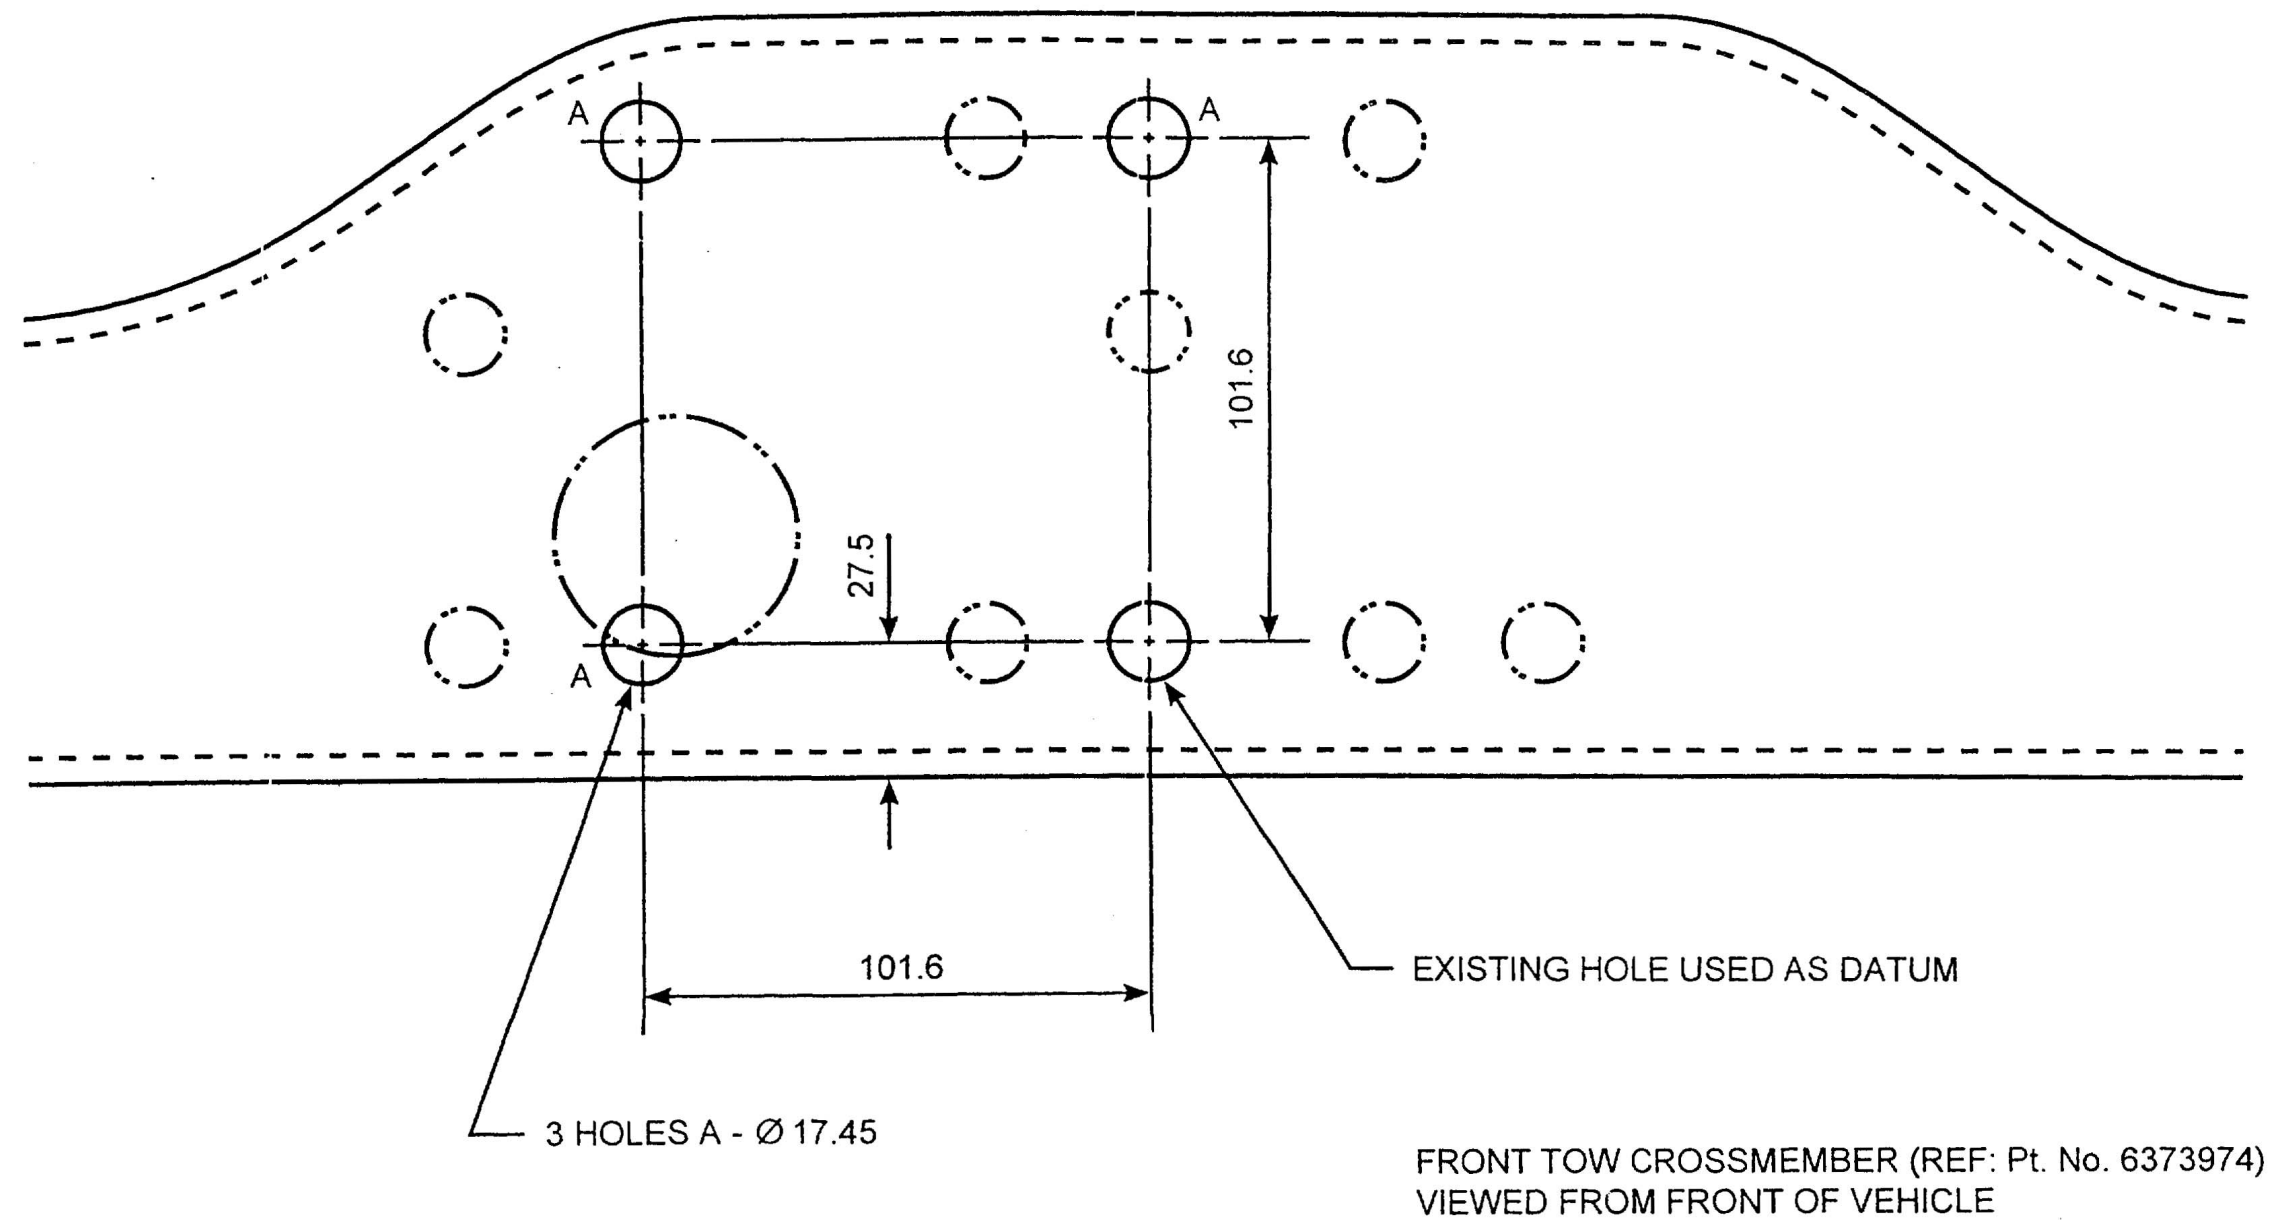

Fig 1 Tow hook mounting holes
9.6.2 Mark position of remaining holes 3 holes as per Fig 1, using lower r.h. (viewed from the front) hole as datum.